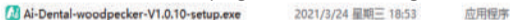

Figure 2
3.1.1 Double-click the installation program, as shown in Figure 2: